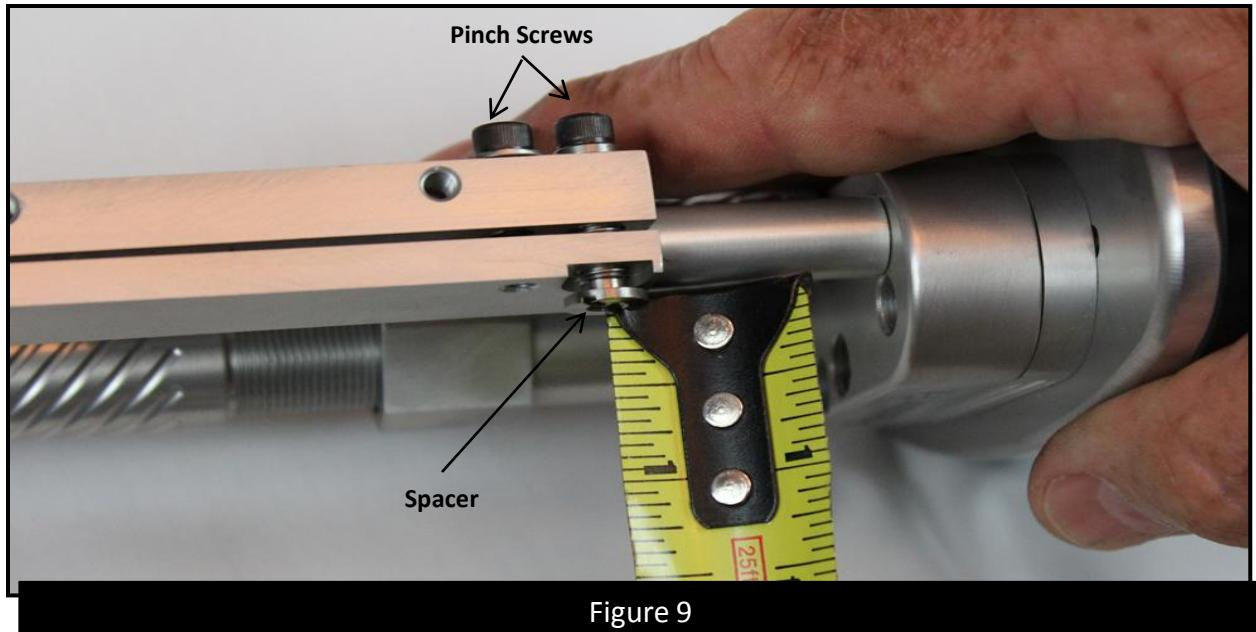

Figure 9
1. Remove Torx comb screws [Ident. G] to remove comb [Ident. 5] (Leave the loose screws in the slots.) This will allow access to cast off/cast on spacers [Ident. 11]. (**Figure 9**)
2. Loosen both the outer and inner pinch screw only in the comb mounting split ring. (*The one that locks the cast off spacer [Ident. 11] by screwing into the back side of it.*) (**See Arrows Figure 9**) This will allow the cast off/cast on slotted spacer to be screwed in or out.
4. Spacers must be adjusted so they are the same height in front and rear. Measure with a ruler. (**Figure 9**)